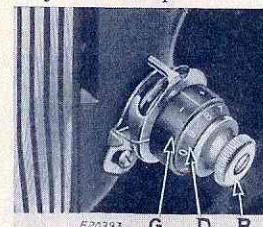
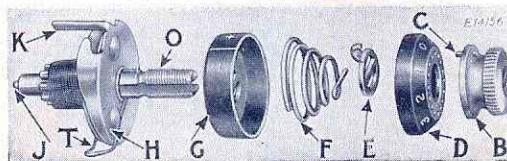

FIG. 18. NEEDLE THREAD TENSION
FIG. 19
Caution—It is important for the tension thumb nut (B, Fig. 18) to have a firm fit on tension stud (O, Fig. 19, page 22) to keep the numbered dial (D) in the position set for the required tension. To remedy a loose fit of the nut, remove parts B, D, E, F and G, Fig. 19, and slightly spread the stud, then reassemble the parts as instructed on pages 22 to 25 inclusive.
In FIG. 18, the numbered dial (D) is marked with numbers ranging from 0 to 9 which indicate different degrees of tension that can be produced. The numbers do not denote a particular size of thread. By noting the number which is opposite the center line between the plus and minus signs, on the indicator (G) when set for a satisfactory tension on the work being stitched, the work can be readily reverted to when a change is made in the tension or size of thread.
Turn the thumb nut (B, Fig. 19) to the left until it stops at "0" on the numbered dial, then
Note. It is not necessary to remove the stud (O, Fig. 19) from the machine arm in order to disassemble the thread tension. It is shown removed, in Fig. 19, only for the purpose of illustration.
First make sure that the tension releasing pin (J), only the end of which is shown in Fig. 19, is in place in the stud (O).
Guide the tension disc assembly onto the stud so that the extension (K, Fig. 19) of the thread guard enters the hole in the machine arm, and the tail (inside the coil) of the thread take-up spring enters one of the grooves in the stud. Next replace the indicator with the large open side facing the
end of the stud so that the plus and minus marks will be at the top (with the minus sign at the left) and hold the parts, thus assembled, against the shoulder of the stud. Then insert the tension spring (F, Fig. 19) in the indicator with the first (half) coil of the spring straddling the lower half of the stud. Guide the stop washer (E) onto the stud so that the extension will be above the tension stud.